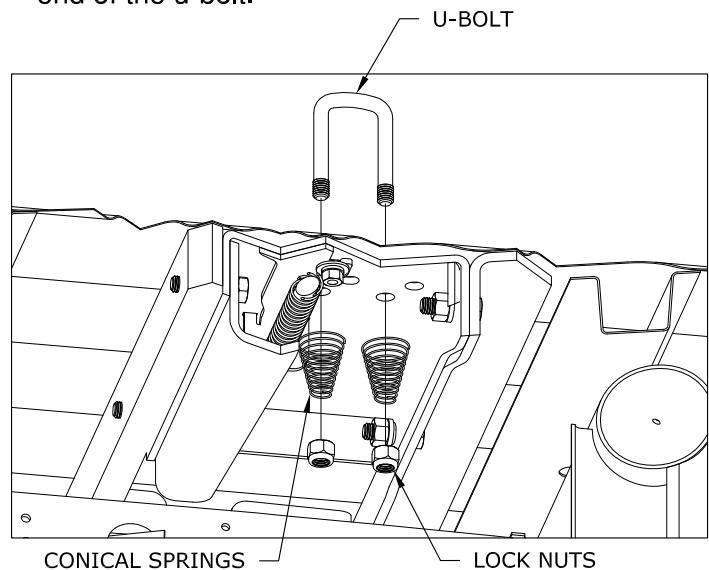

FIGURE G3: Cut away view of bed and center section
3. **Add springs.** Place a conical spring over each leg of the u-bolts and secure with a  $\frac{1}{2}$ " lock nut, see figure G3. Tighten the lock nut until the nut is flush with the end of the u-bolt.